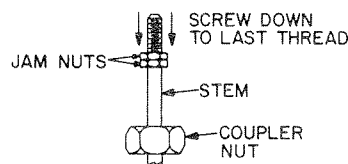

Fig. 4.13
13. Screw the two stem jam nuts all the way down to the last thread (see Fig. 4.13).